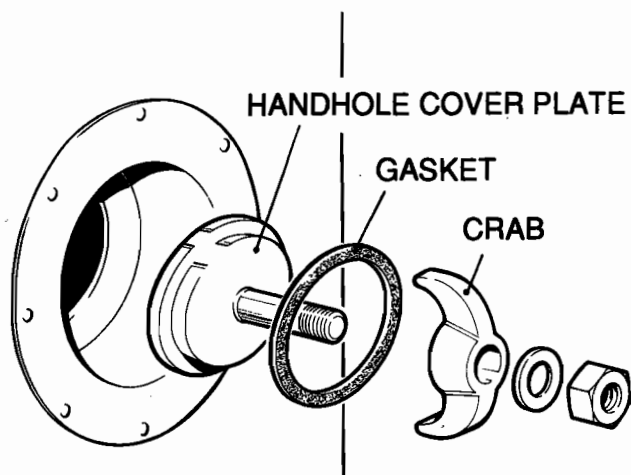

FIG. 12 REMOVAL OF HANDHOLE FITTING
4.3 Monthly (Figs. 12 and 13)
- (1) Blow down the boiler and water column completely.
- (2) Inspect the hand holes in the boiler. If any leakage is evident, the faulty gasket must be renewed. Refer to Fig. 12 and, providing the replacement gasket is a genuine Fulton component, proceed as follows:
4.4 Three Monthly (Fig. 12)
4.5 Six Monthly (Fig. 12)